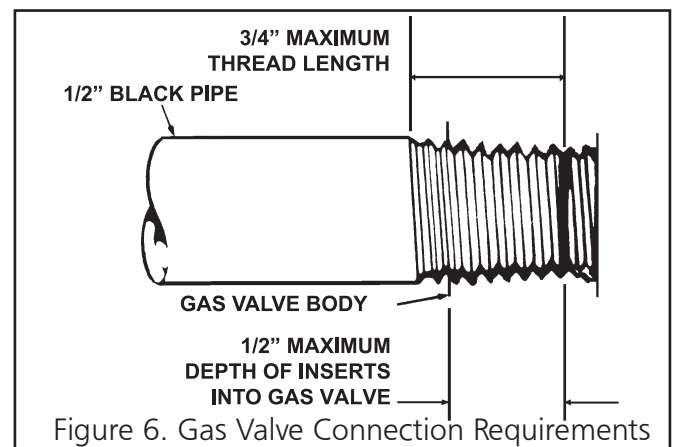

Figure 6. Gas Valve Connection Requirements
- Male threads on pipe to be installed into gas valve shall meet the requirements of Figure 6. Threads longer than those shown in the figure may cause gas valve distortion and malfunction.
**⚠ WARNING:** Failure to ensure that male threads on pipe to be installed into gas valve meet the requirements of Figure 6 may cause gas valve damage, distortion and malfunction.